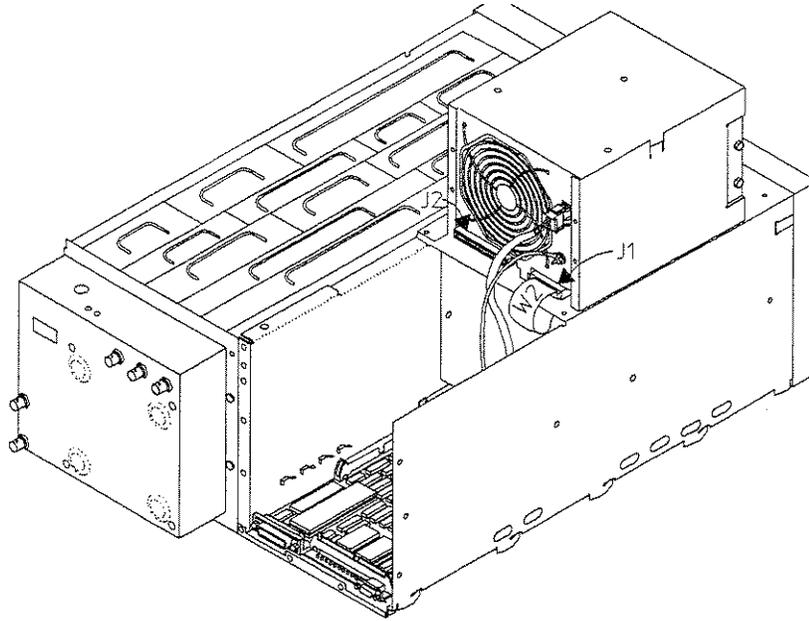

Figure 5-2. Connecting Test Board
3. Disconnect the CPU power cable (W2) from J1 on the CPU assembly. Disconnect the motherboard power cable (W12) from J2 on the Power Supply assembly (see figure 5-2).